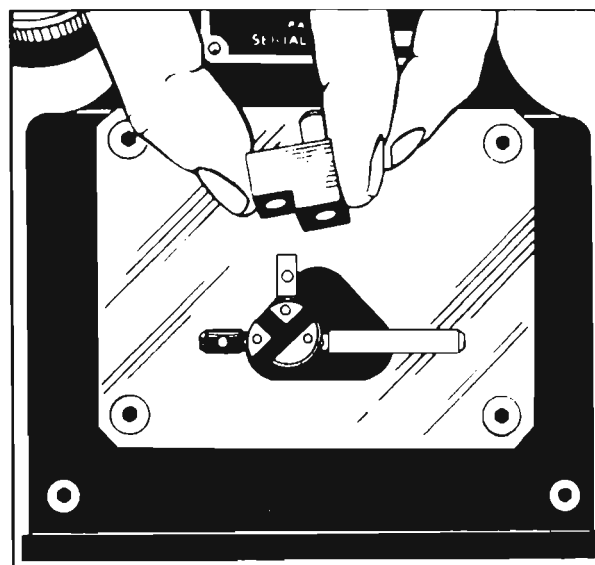

Fig. 27
2. Clean threads and seats of extension points carefully. (Fig. 27). Screw points and centralizer stud into tapped holes with counterbored seats in gaging fingers and centralizer finger. Insert point wrench (furnished with AG-300 gage) through cross-hole in points and stud, and tighten lightly. Slip centralizer block over stud with contact point to right as shown (block must rest solidly on centralizer finger).